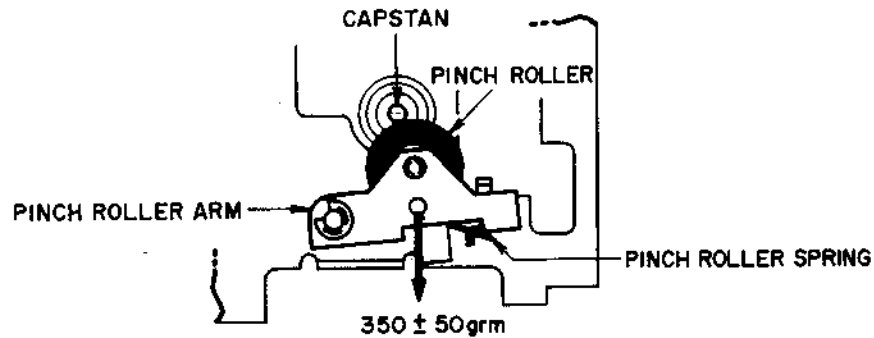

Fig. 4 Pinch roller pressure measurement
2) Pinch Roller Pressure Measurement (Refer to Fig. 4)